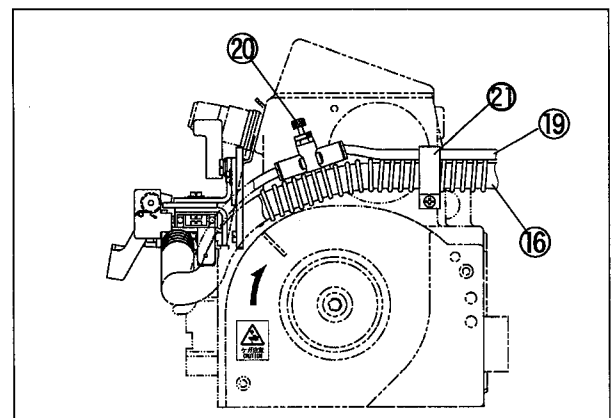

Fig. 8
- (9) Bind the air pipe ⑲ and the suction hose ⑯ by the cord clamp ⑳ and attach them to side of machine frame. (Fig. 8)
- Here, the hose should have room for expanding because the suction pipe C. set ⑮ moves 60 mm.
- (10) Connect the other end of suction hose ⑯ to a dust bag.